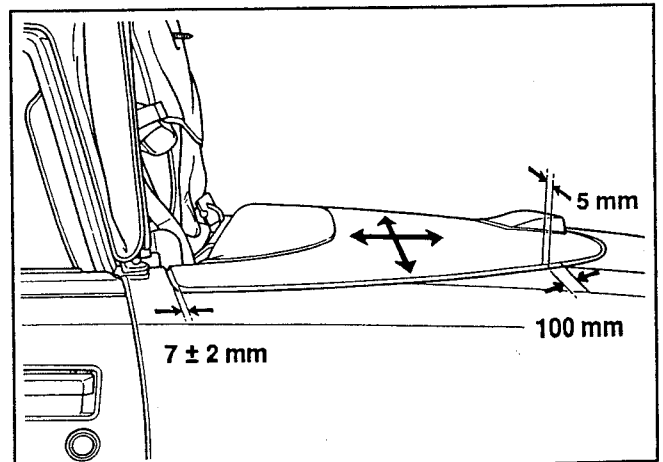

Figure 49. Measure Stowage Panel Gaps
2. Measure the gaps at the areas indicated (Fig. 49).